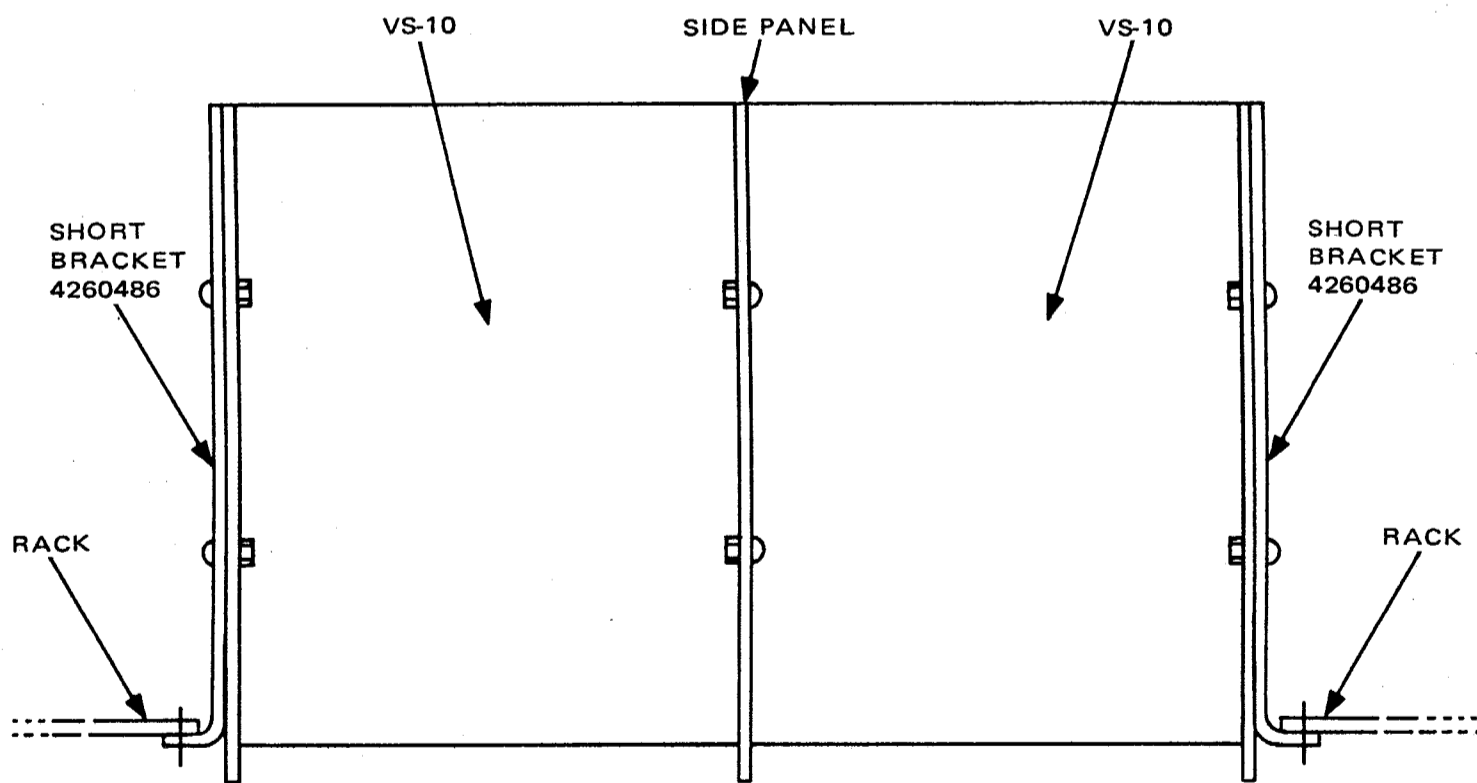

Figure 6. Twin-Mount Installation, Top View
3. Use one side panel and fasten the two VS-10's together as shown in Figure 6.
4. Fasten the two short brackets to the side panels of each VS-10 as shown in Figure 6 using the No. 6 screws and nuts furnished in the kit.